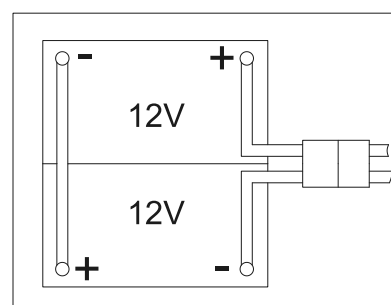

Figure 3
The machine requires two 12 V batteries, connected according to the diagram (Figure. 3).
4. Open the recovery tank cover (1) and check that the recovery tank (25) is empty; otherwise empty it with the drain hose. (22)
5. Close the recovery tank cover (1).
6. Overturn the recovery tank (25) carefully.
8. Route and install the battery cable as shown in (Figure3), then carefully tighten the nut on each battery terminal.
9. Place the protection cap on each terminal, then connect the battery connector (38).
10. Carefully lower the recovery tank (25).